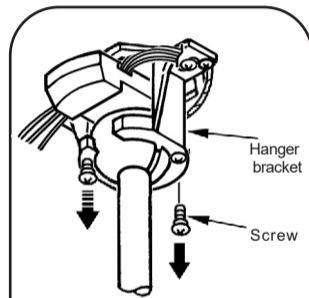

Fig.15
Step 1. Remove 1 of the 2 screws from the bottom of the hanger bracket and loosen the other one half a turn from the screw head. (Fig. 15)